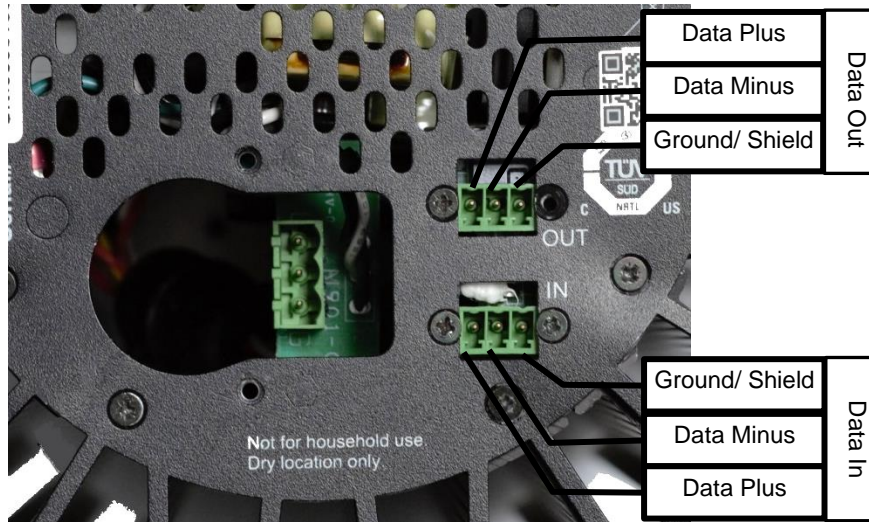

Figure 5: Data Cable Wiring
8. Plug Data Terminal Block Plug into the Terminal Block headers at the rear of the fixture (Figure 5).